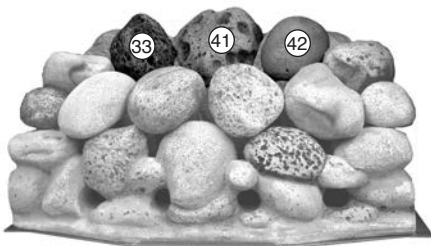

Fig. 31
5. Place the remaining three loose pebbles in line on the next row up, again making sure all the gaps are even. It is important that the pebbles 'bridge' the peaks of the fuel bed and are not placed in between. This helps the flow of burnt gases and should give an even glowing fuel bed (Fig. 31).